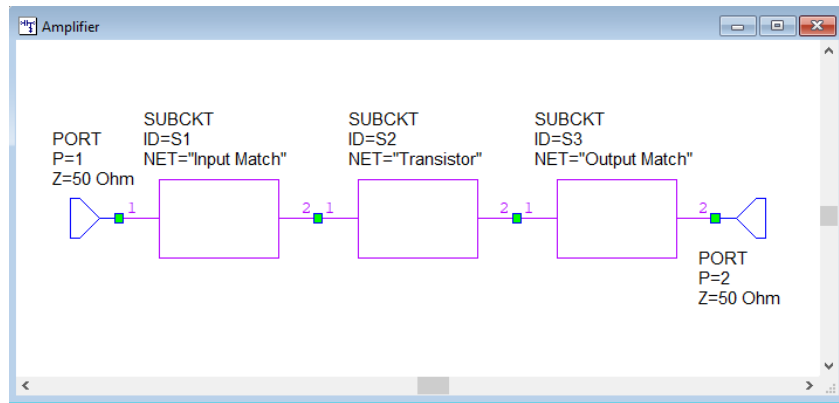

Fig. 10 Schematic of the final amplifier formed by subcircuits.
- Create a new schematic called Amplifier and insert (from the left) the schematics Input Match, Transistor and Output Match, and connect both PORTs. The resulting schematic with subcircuits is shown in Fig. 10.